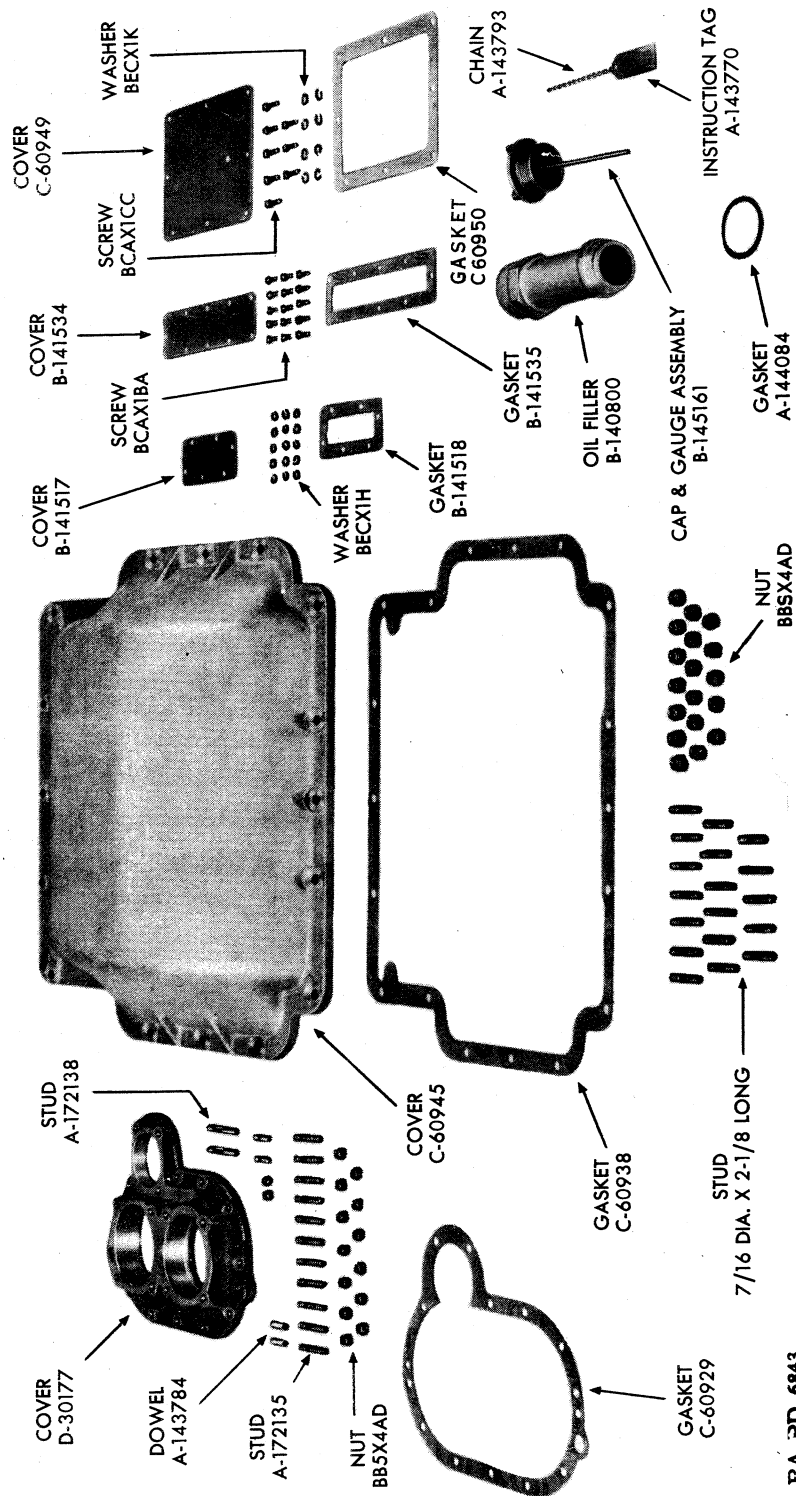

FIGURE 80—Transmission case covers and gaskets.
(33) Replace oil groove covers, if they have been removed, and handhole cover (fig. 80).